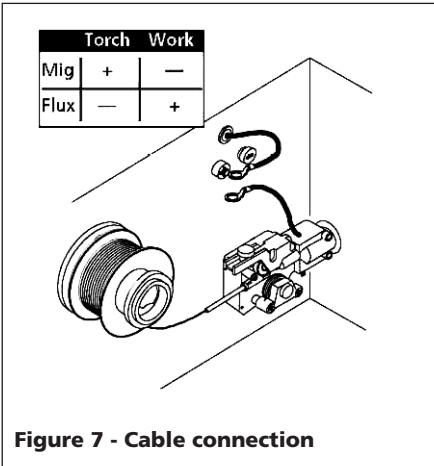

Figure 7 - Cable connection
2. Locate red (+) and black (-) polarity connectors just above wire feed mechanism (See Figure 7).